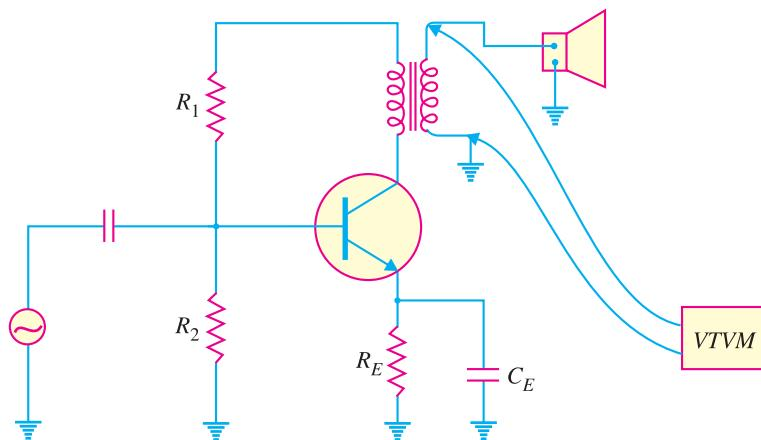

Fig. 22.15
**(iii) a.c. voltage measurements.** For measuring a.c. voltage, a rectifier is used in conjunction with a VTVM. The rectifier converts a.c. into d.c. for application to the grid of valve  $V_1$ . In fact, rectifier circuit is a part of VTVM. Fig. 22.15 shows the transistor power amplifier stage and measurement of a.c. voltage across the speaker.